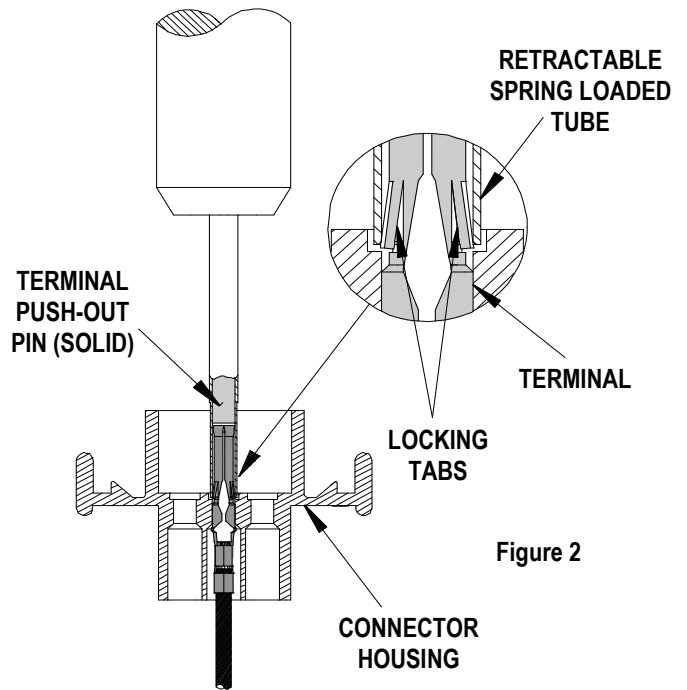

Figure 2
2. The Retractable Spring Loaded Tube must depress the Locking Tabs on the terminal before it contacts the Terminal Push out pin. Grip and rotate Retractable Spring Loaded Tube while inserting over terminal to help depress locking tabs. See Figure 2.